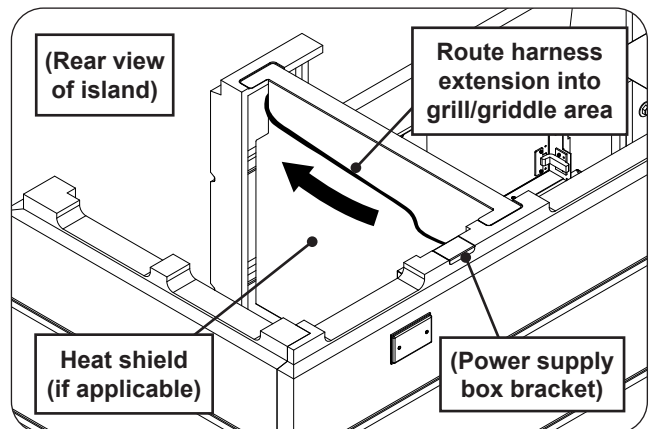

Fig. 12-3 Route power supply harness extension
3. Once the box is installed, locate the power supply harness extension that is attached to the power supply and route it along the heat shield (if applicable) and into the grill/griddle area (for future grill/griddle installation). See Fig 12-3.